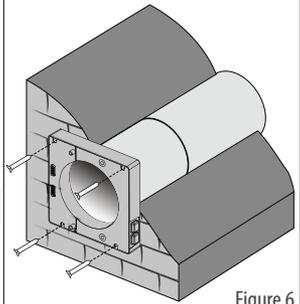

Figure 6
7. While placing a sealing gasket under the mounting plate, fix the mounting plate to the wall with screws from the mounting kit (Figures 6).